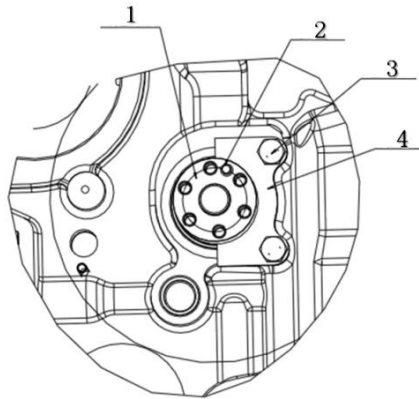

Fig. 4-27 Camshaft installation drawing
c. Install the camshaft thrust plate and then fix it with hexagon bolts, as shown in fig. 4-27.
- ① The thread part of bolt should be coated with Loctite 242 sealant.
- ② Apply clean lubricating oil to the thrust plate.
- ③ The camshaft should rotate smoothly, free of stuck phenomenon.